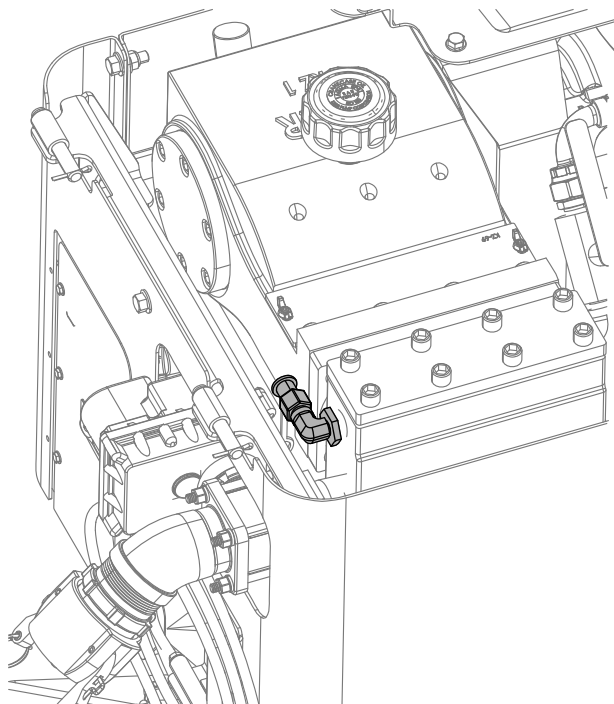

Figure 123
5. Connect the spray-hose attachment to the fitting (Figure 123).